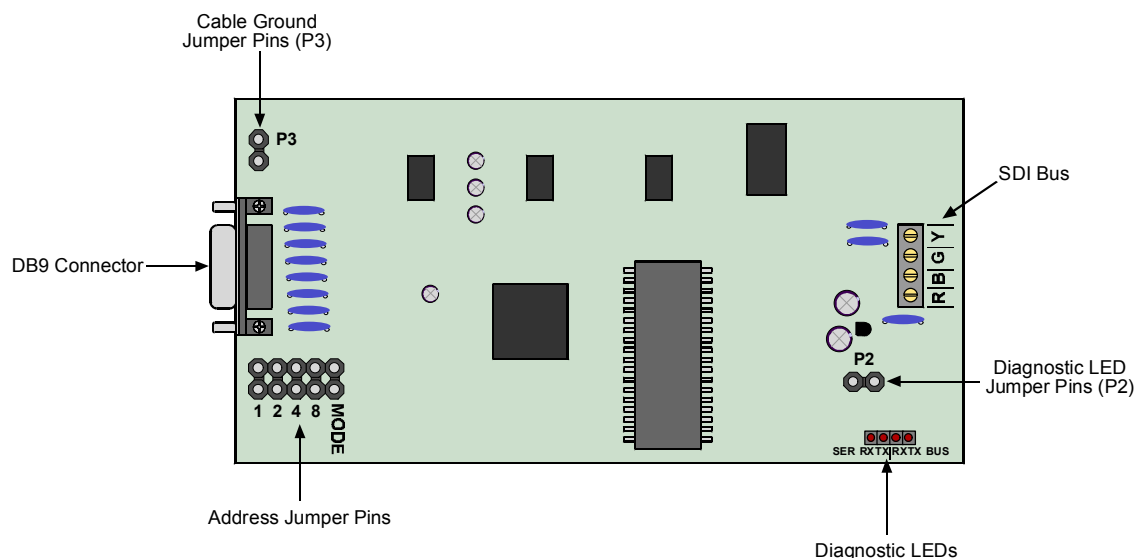

Figure 35: D9533 RS-232 Serial Interface Module
1. Make sure all address jumper plugs are in the OFF position on the D9533. See Figure 35 for address jumper pin location.